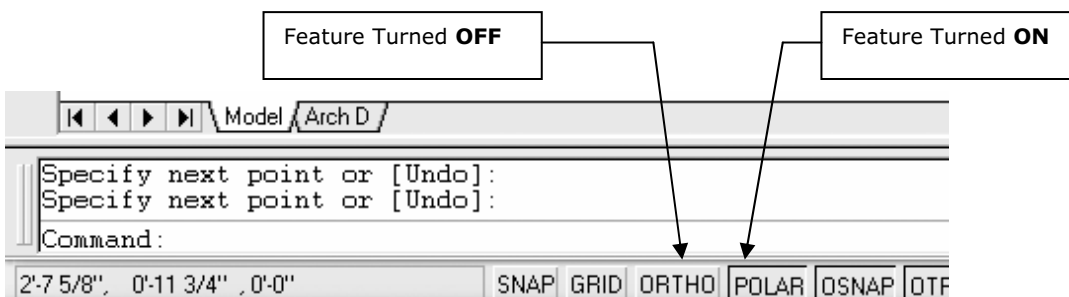

Figure 2-1.10 Status Bar – shown with Polar (i.e., Polar Tracking) turned on
12. On the *Status Bar*, make sure **Polar Tracking** is turned on. (Figure 2-1.10). *It should look like a button pushed in (i.e., ON).*